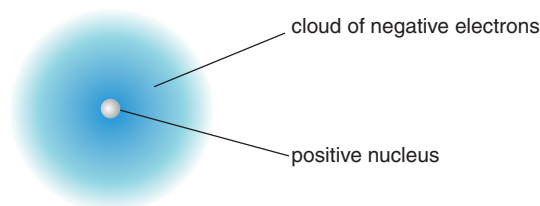

Figure 5.2 Model of the structure of the atom
- Light, negatively charged **electrons** surround the nucleus (see Figure 5.2) and are attracted to it. (Positive attracts negative.)